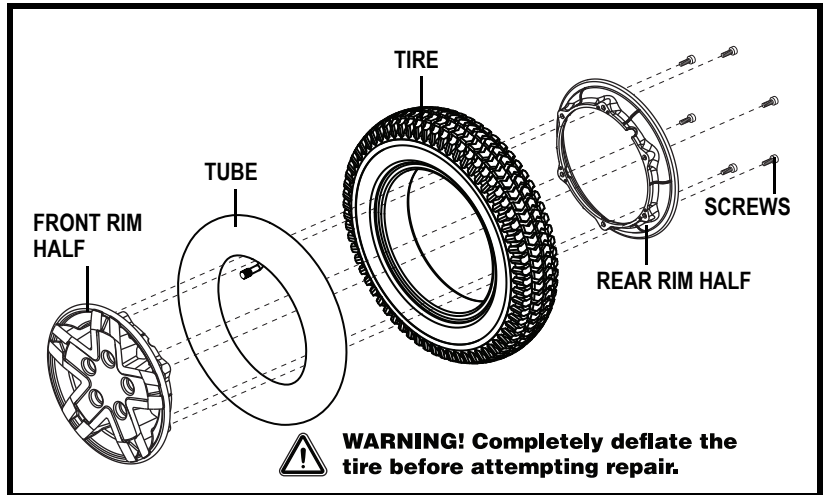

Figure 22. Q6 Edge VA Drive Wheel Disassembled
6. Remove the screws and separate the front and rear rim. See figure 22.
10. Reinstall the five (5) lug nuts onto the wheel hub and tighten.